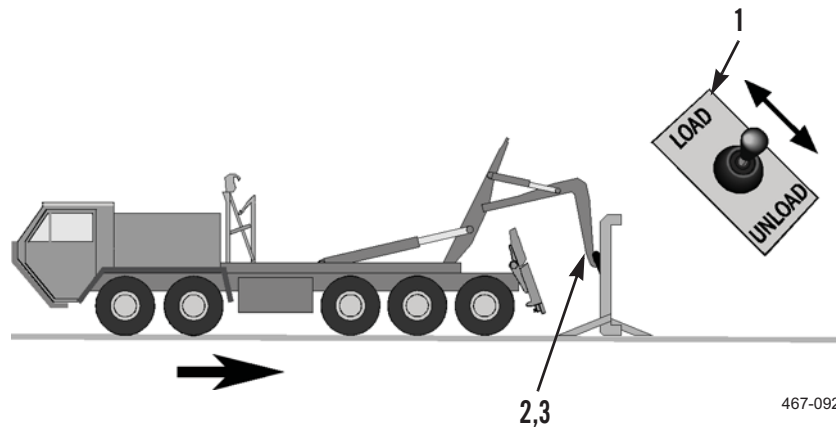

Figure 30. Hook Located on Bail Bar.
7. Keeping engine at idling speed, slowly reverse vehicle to position hook (Figure 30, Item 3) under bail bar (Figure 30, Item 2). Use joystick (Figure 30, Item 1) to adjust hook to locate it on bail bar.